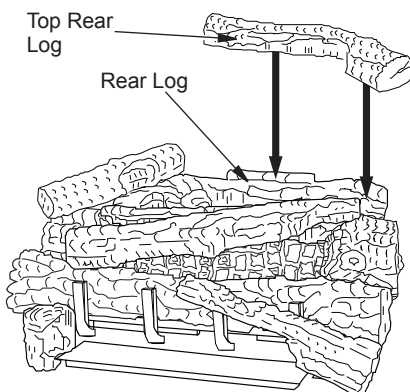

Figure 35 - Installing Top Rear Log
11. Place the top rear log (18" D-071, 24" & 30" D-045) onto the rear log as shown. The rear log has a projection that will fit into the recess area on the bottom of the top rear log (see Figure 35).